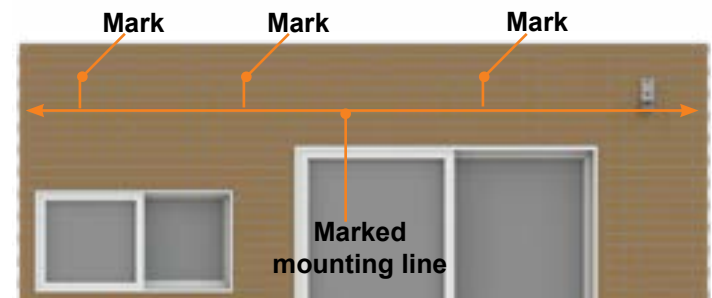

Fig.31
6. Once the location of the rightmost wall bracket and mounting holes are marked, measure along the mounting line and mark the center of each proposed location of the additional wall brackets, adjusting their positions as needed to ensure even spacing across the entire length of the awning while avoiding mounting to joints in the bricks (Fig. 31).